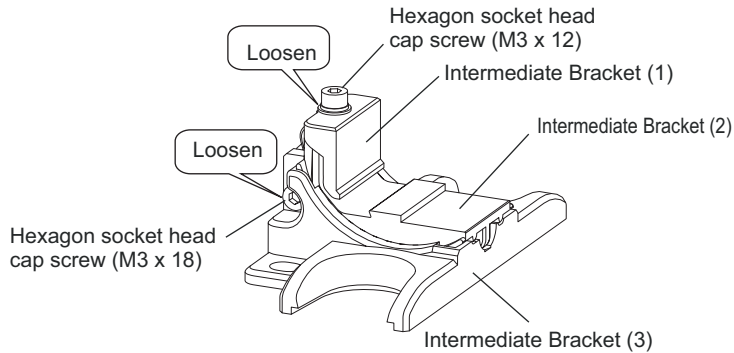

Figure 6
1. Loosen the hexagon socket head cap screw (M3 x 18) of the intermediate bracket (3) and the hexagon socket head cap screw (M3 x 12) of the intermediate bracket (1) to be able to attach the bracket to the sensor case. (Figure 6 and 7)